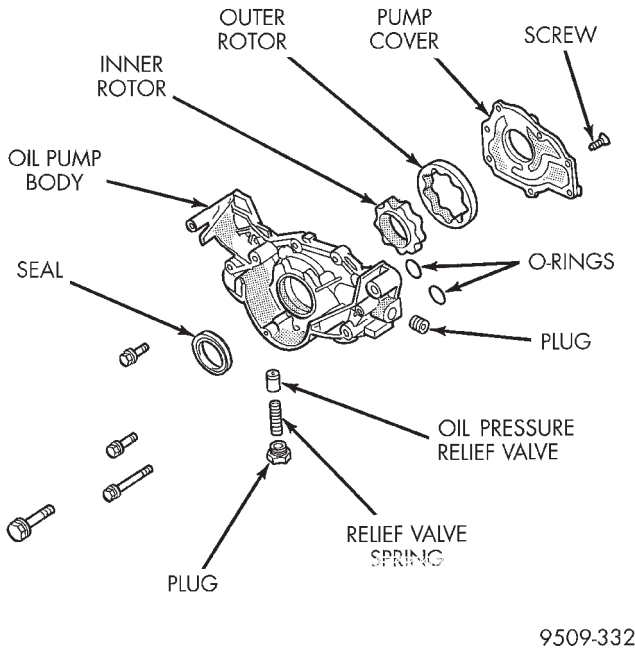

Fig. 88 Oil Pump
(2) Install cover and tighten screws to 10 N·m (85 in. lbs.).
(3) Install relief valve, spring, gasket and cap as shown in (Fig. 88). Tighten cap to 44 N·m (33 ft. lbs.).